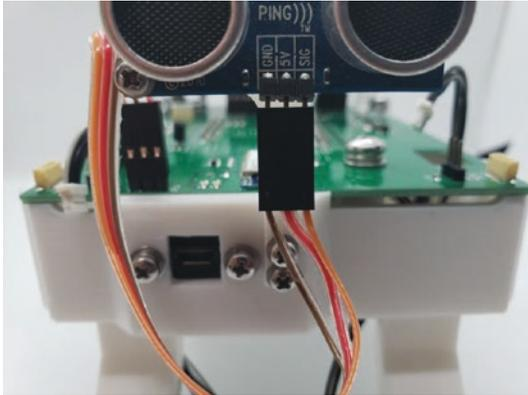

Figure 8-65. Attach the Ultrasonic Sensor cable to the PCB
20. Attach the Ultrasonic Sensor wiring harness to the PCB. See Figure 8-65.